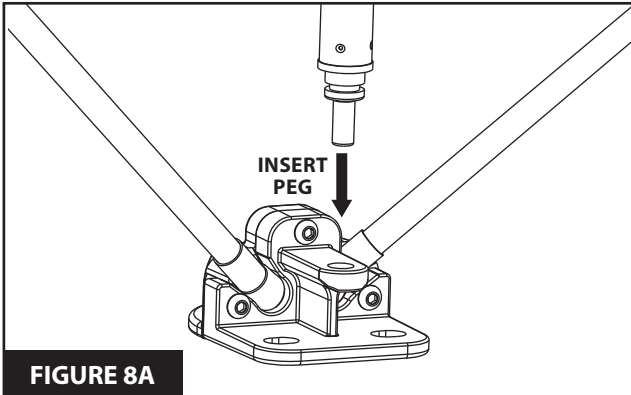

FIGURE 8A
11. Install (4) vertical spreader poles with the round peg ends. With clamp on the vertical pole in the unlocked position, place peg into hole on bottom corner hub. **SEE FIGURE 8A & 8B.**